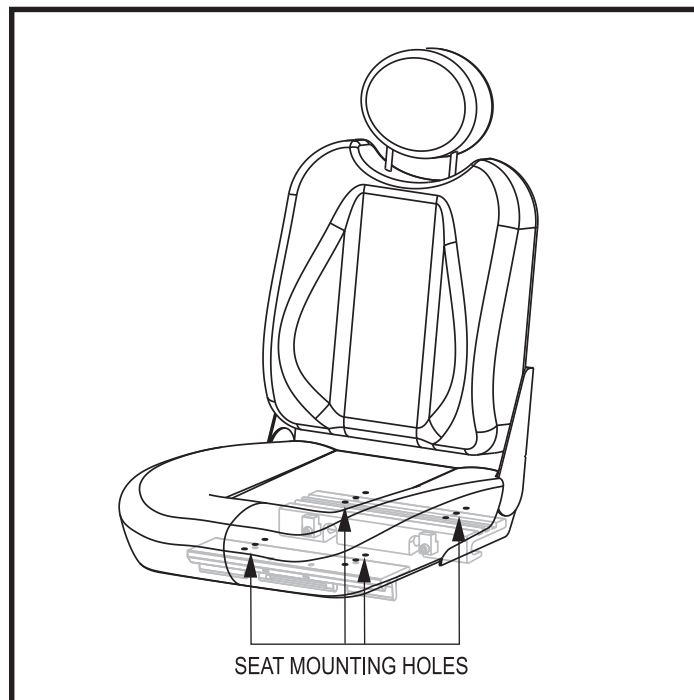

Figure 13. Seat Position Adjustment
6. Reposition the extrusions on a different set of mounting holes. You must move both extrusions the same number of holes either forward or backwards. See figure 13.